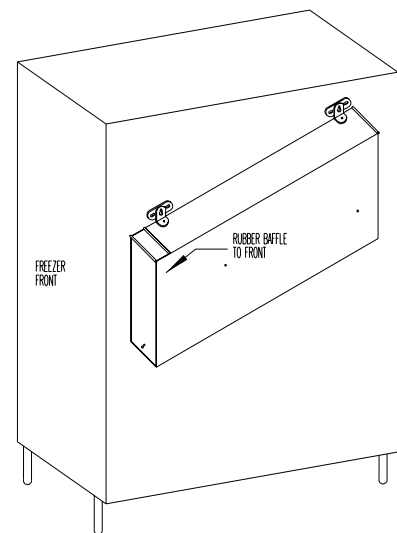

Figure 1
3. Hold dispenser to the side of the freezer and position relative to top and front of the freezer. Rotate unit so that the front of the dispenser is vertical and set back from the front of the freezer as desired. (see Figure 1)